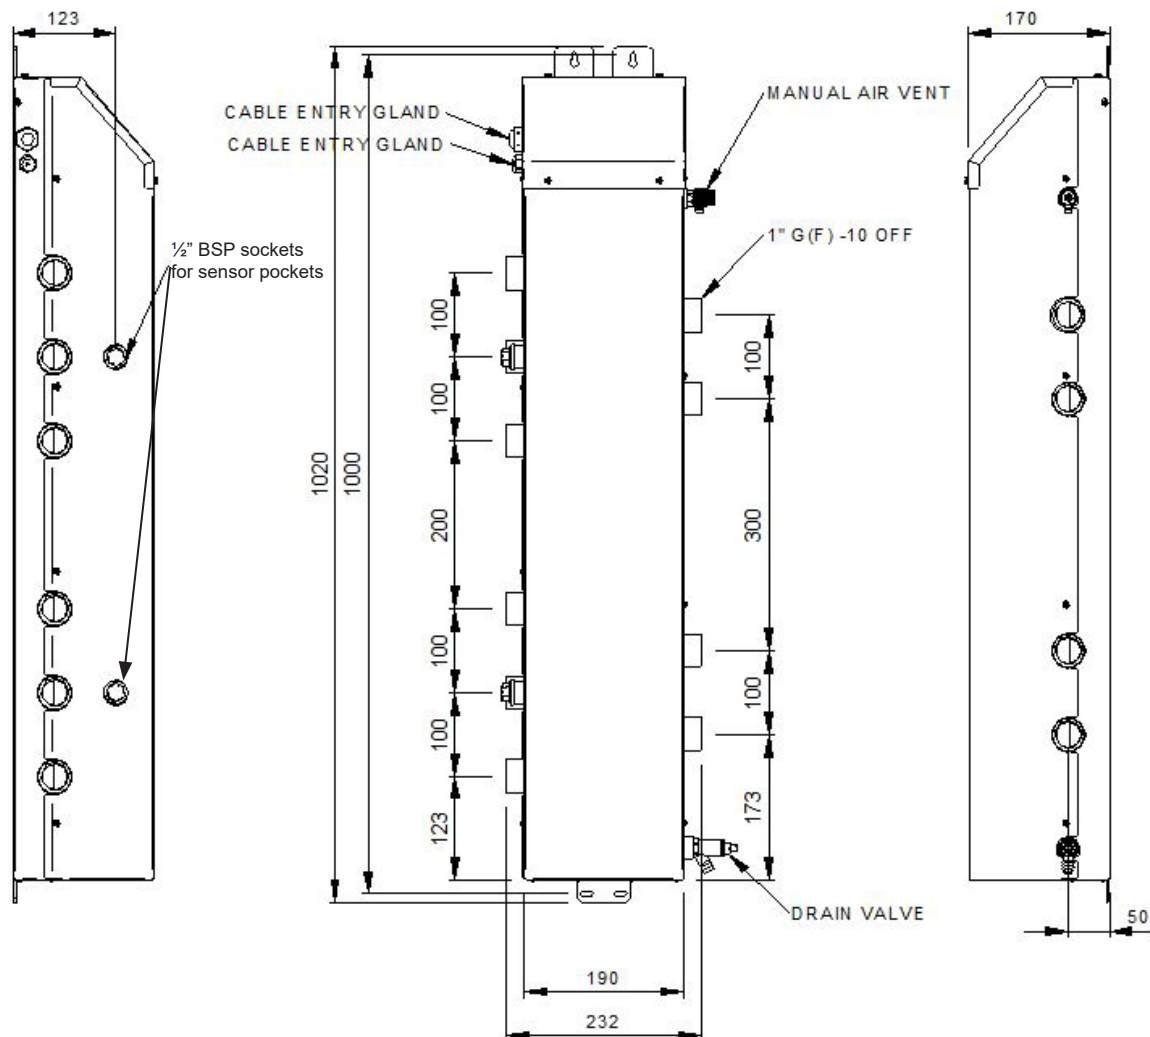

Figure 2-1: Grant Volumiser/Low Loss Header dimensions
The unit **MUST** be installed vertically, with the immersion heater at the top, as shown in Figure 2-1.
1. Using a suitable thread sealant, fit the $\frac{3}{8}$ " x $\frac{1}{4}$ " reducing bush into the $\frac{3}{8}$ " socket at the top of the right-hand side of the volumiser/header and then fit the $\frac{3}{8}$ " manual air vent into the reducing socket. Refer to Figure 2-1. Position the air vent such that the outlet is pointing downwards.
2. Again, using a suitable thread sealant, fit the drain cock into the $\frac{1}{2}$ " socket at the bottom of the right-hand side of the header/volumiser. Refer to Figure 2-1. Position the drain cock such that the outlet is facing downwards.
For positions of the Flow (outlet) and Return (inlet) connections on HPID6R32 models, refer to Figure 2-1 in the instructions supplied with the heat pump.